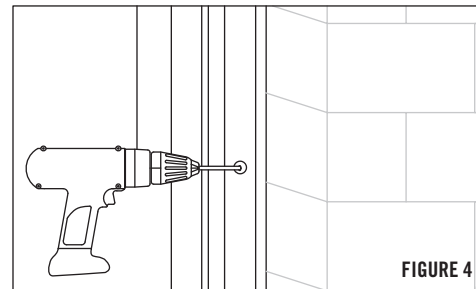

FIGURE 4
- 4) Extend and retract gate to its stops to work out stiffness, then fully extend gate across opening. Align padlock holes and position the locking bar on door frame or wall. Mark and drill pilot holes. Secure with 5/16" x 2" lag bolts. (See Figure 4)